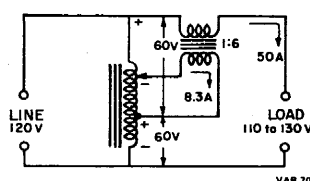

Figure 10. Overvoltage output.
**Buck AND Boost** A similar problem is that of being able both to increase or decrease the voltage from the nominal line-voltage input. This can be accomplished by the circuit in Figure 10. The problem in this case is to provide a variable voltage of 110 to 130 V at 50 A from a 120-V supply.